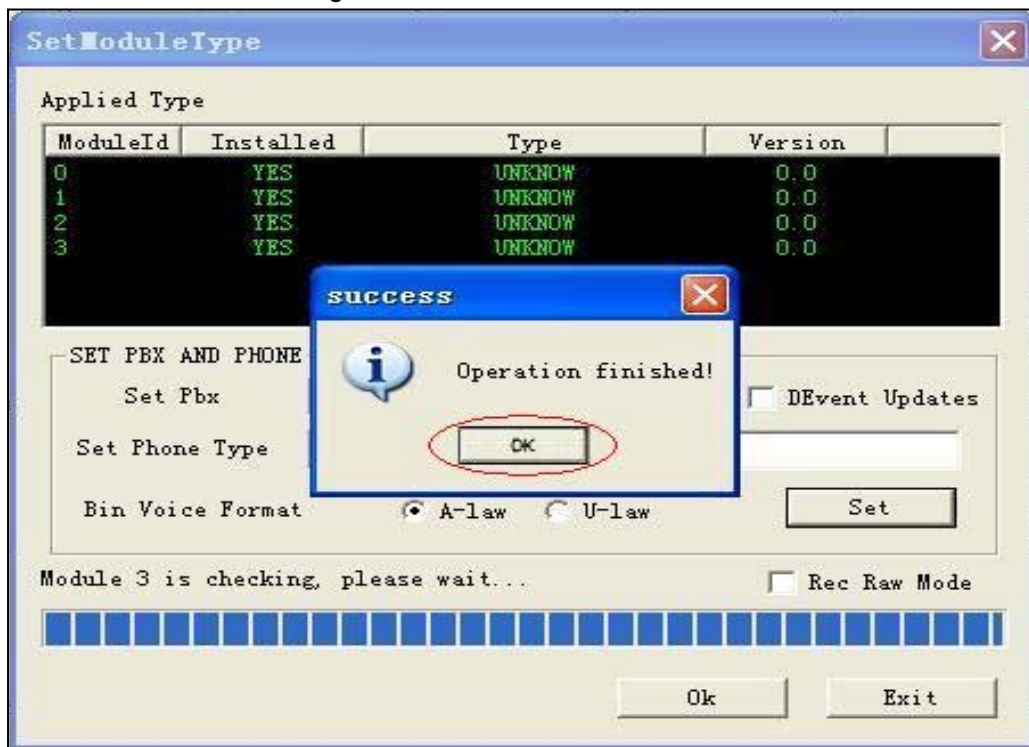

Figure 2-7 For A-type Boards
Step 6 : Once a module setting is done, the dialog 'success' pops up. Click the button 'OK' as shown in Figure 2-7.